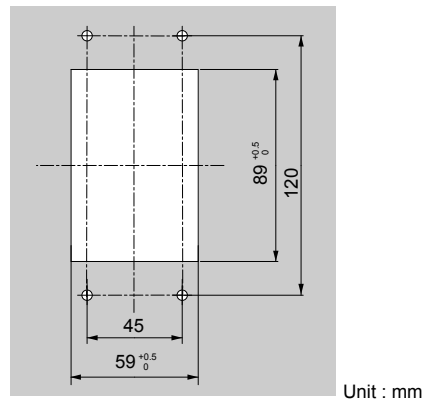

Figure 2.14 Panel Cut-Out Dimensions (Internal/Flush-Mount Installation)
1. Cut an opening in the enclosure panel for the digital operator as shown in **Figure 2.14**.